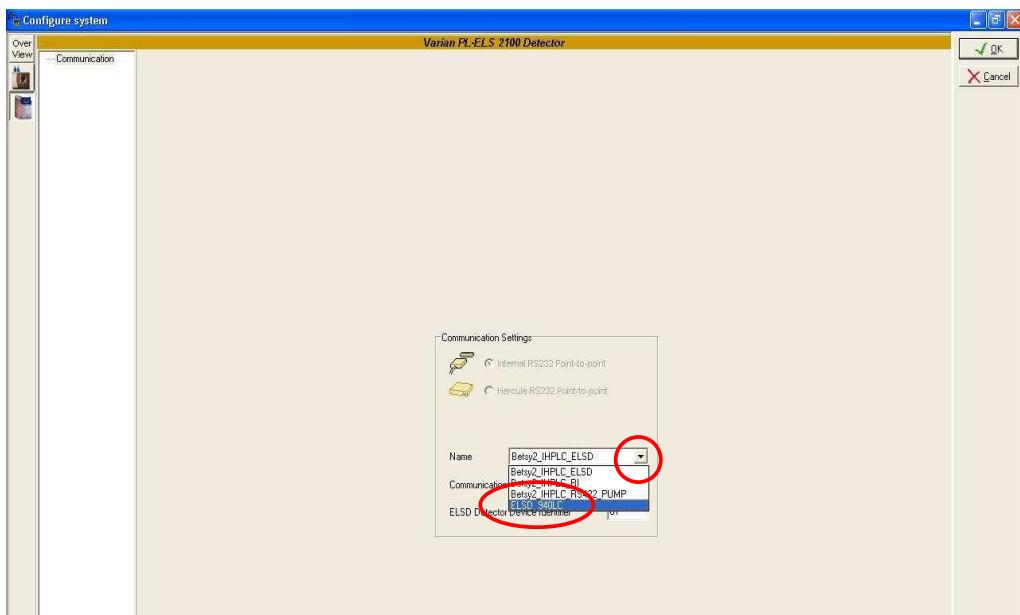

Figure 10: ELSD Communication Settings
12. The following picture appears (Fig 10). It is here that you have to set up the protocol layer that the ELSD standalone driver is going to use.
13. Click on the **NAME** pull down menu and select the protocol layer that was set up earlier called **ELSD_940LC** (Fig 10).